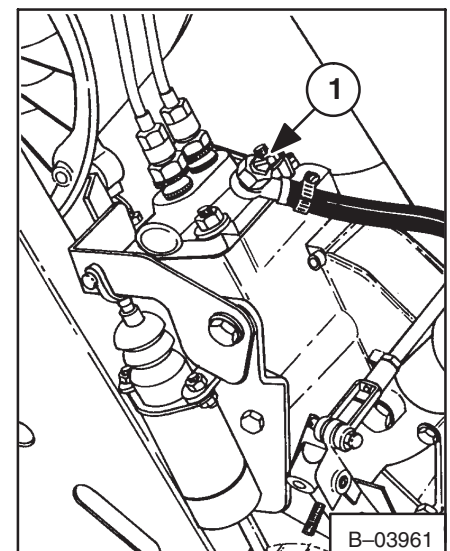

Fig. 1–22 Loosen The Slotted Plug (641)
1. Loosen the slotted plug on the injector pump (Fig. 1–22, Item 1) and activate the priming lever on the fuel pump until fuel is flowing from the loosened plug containing no air.